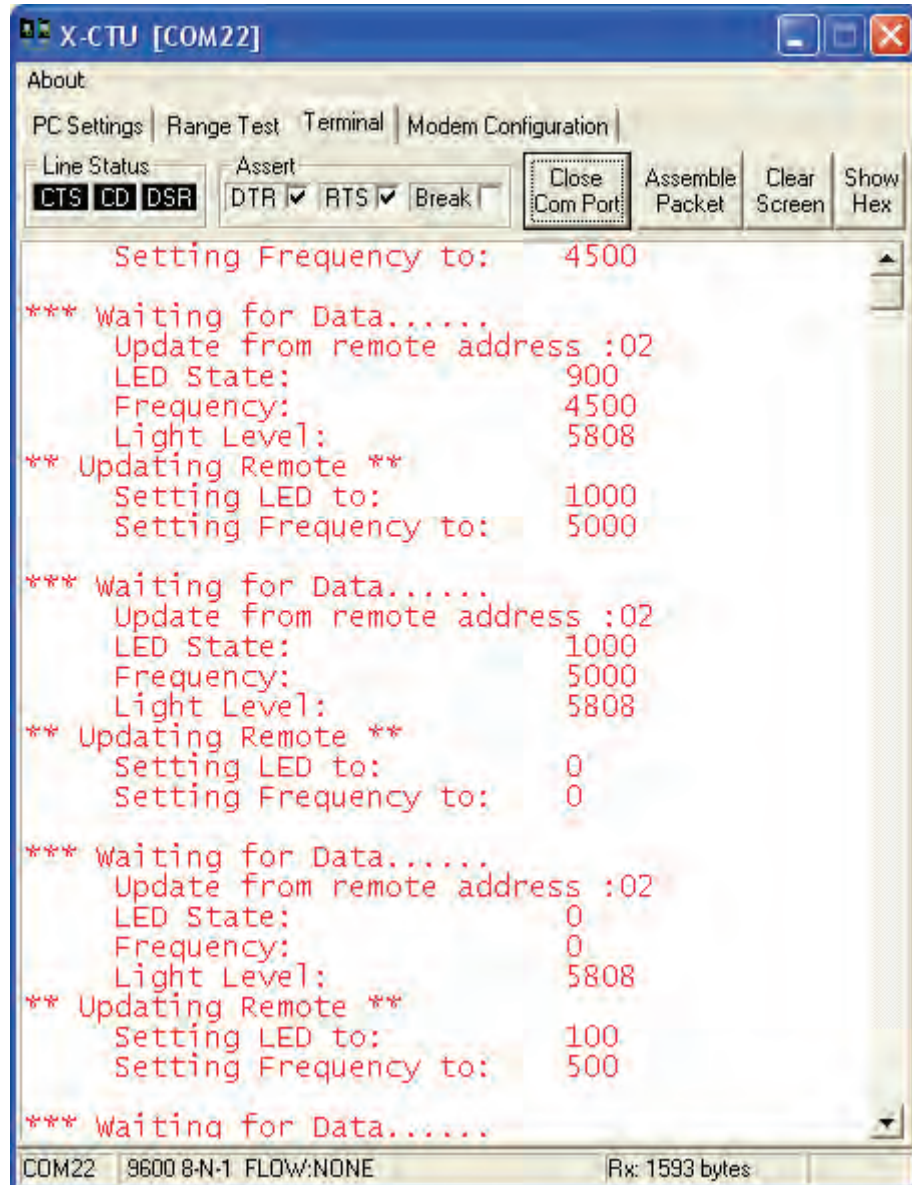

Figure 5-12: Scheduled Base Monitoring in Terminal
- ✓ Using a terminal window, monitor the updates as shown in Figure 5-12.